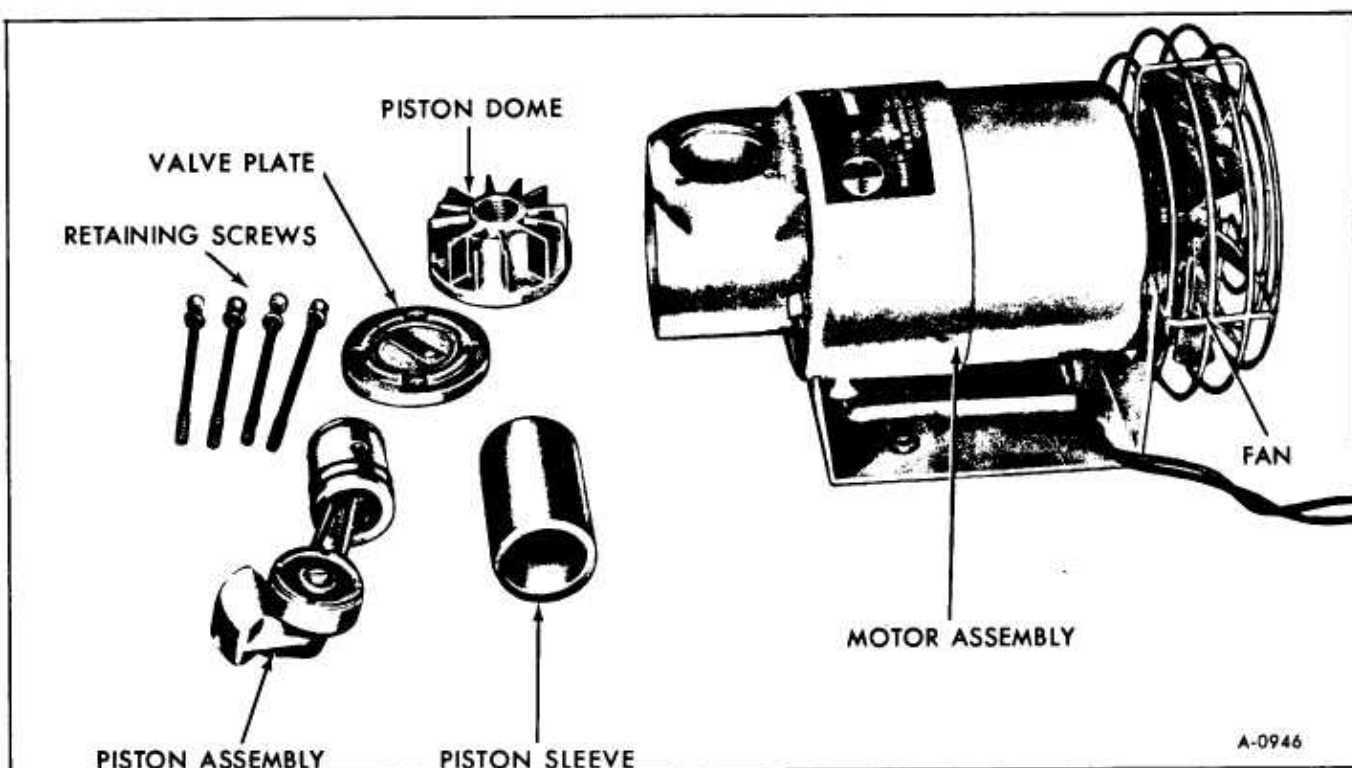

Figure 25-Compressor Components
3. Referring to Figure 25, remove piston sleeve.